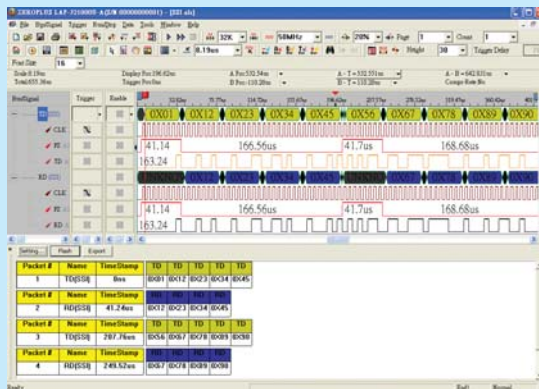

Figure 3
- ▶ The tested result that using Zeroplus Logic Analyzer tested to the same signal as Figure 3 below, it is no need to test repetitively, at the same time, and using software coding function can display the data value of bus on screen.
- If to exchange the measurement instrument into the ZEROPLUS Logic Analyzer to measure SSI, it not only can test all the signals, but also can read all the signal value, the time is more four times than the Oscilloscope, to shorten the engineer's development time and improve the efficiency, and to make the product on the market earlier, to get the greatest benefits , Figure 3 and 4 for reference .